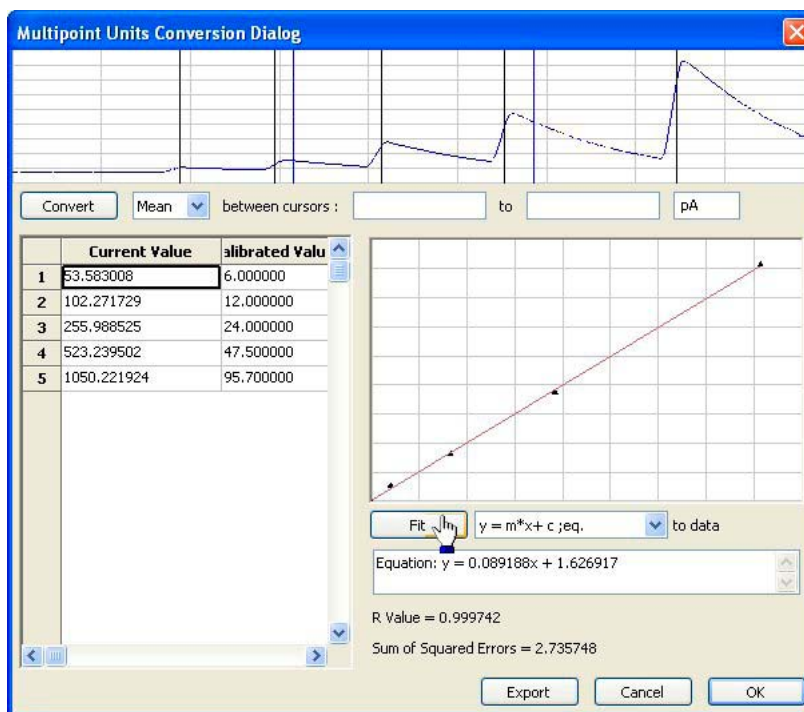

Fig. 47 —
- After all the values have been entered, click the **Fit** button to generate the linear regression equation and its R value. The calculated conversion graph then appears on the right side of the dialog box, and the equation and R value are printed below it. The closer the R value is to one, the greater the accuracy of the calibration (**Fig. 47**).
- If desired, export the equation to a text file by pressing the **Export** key (**Fig. 47**).